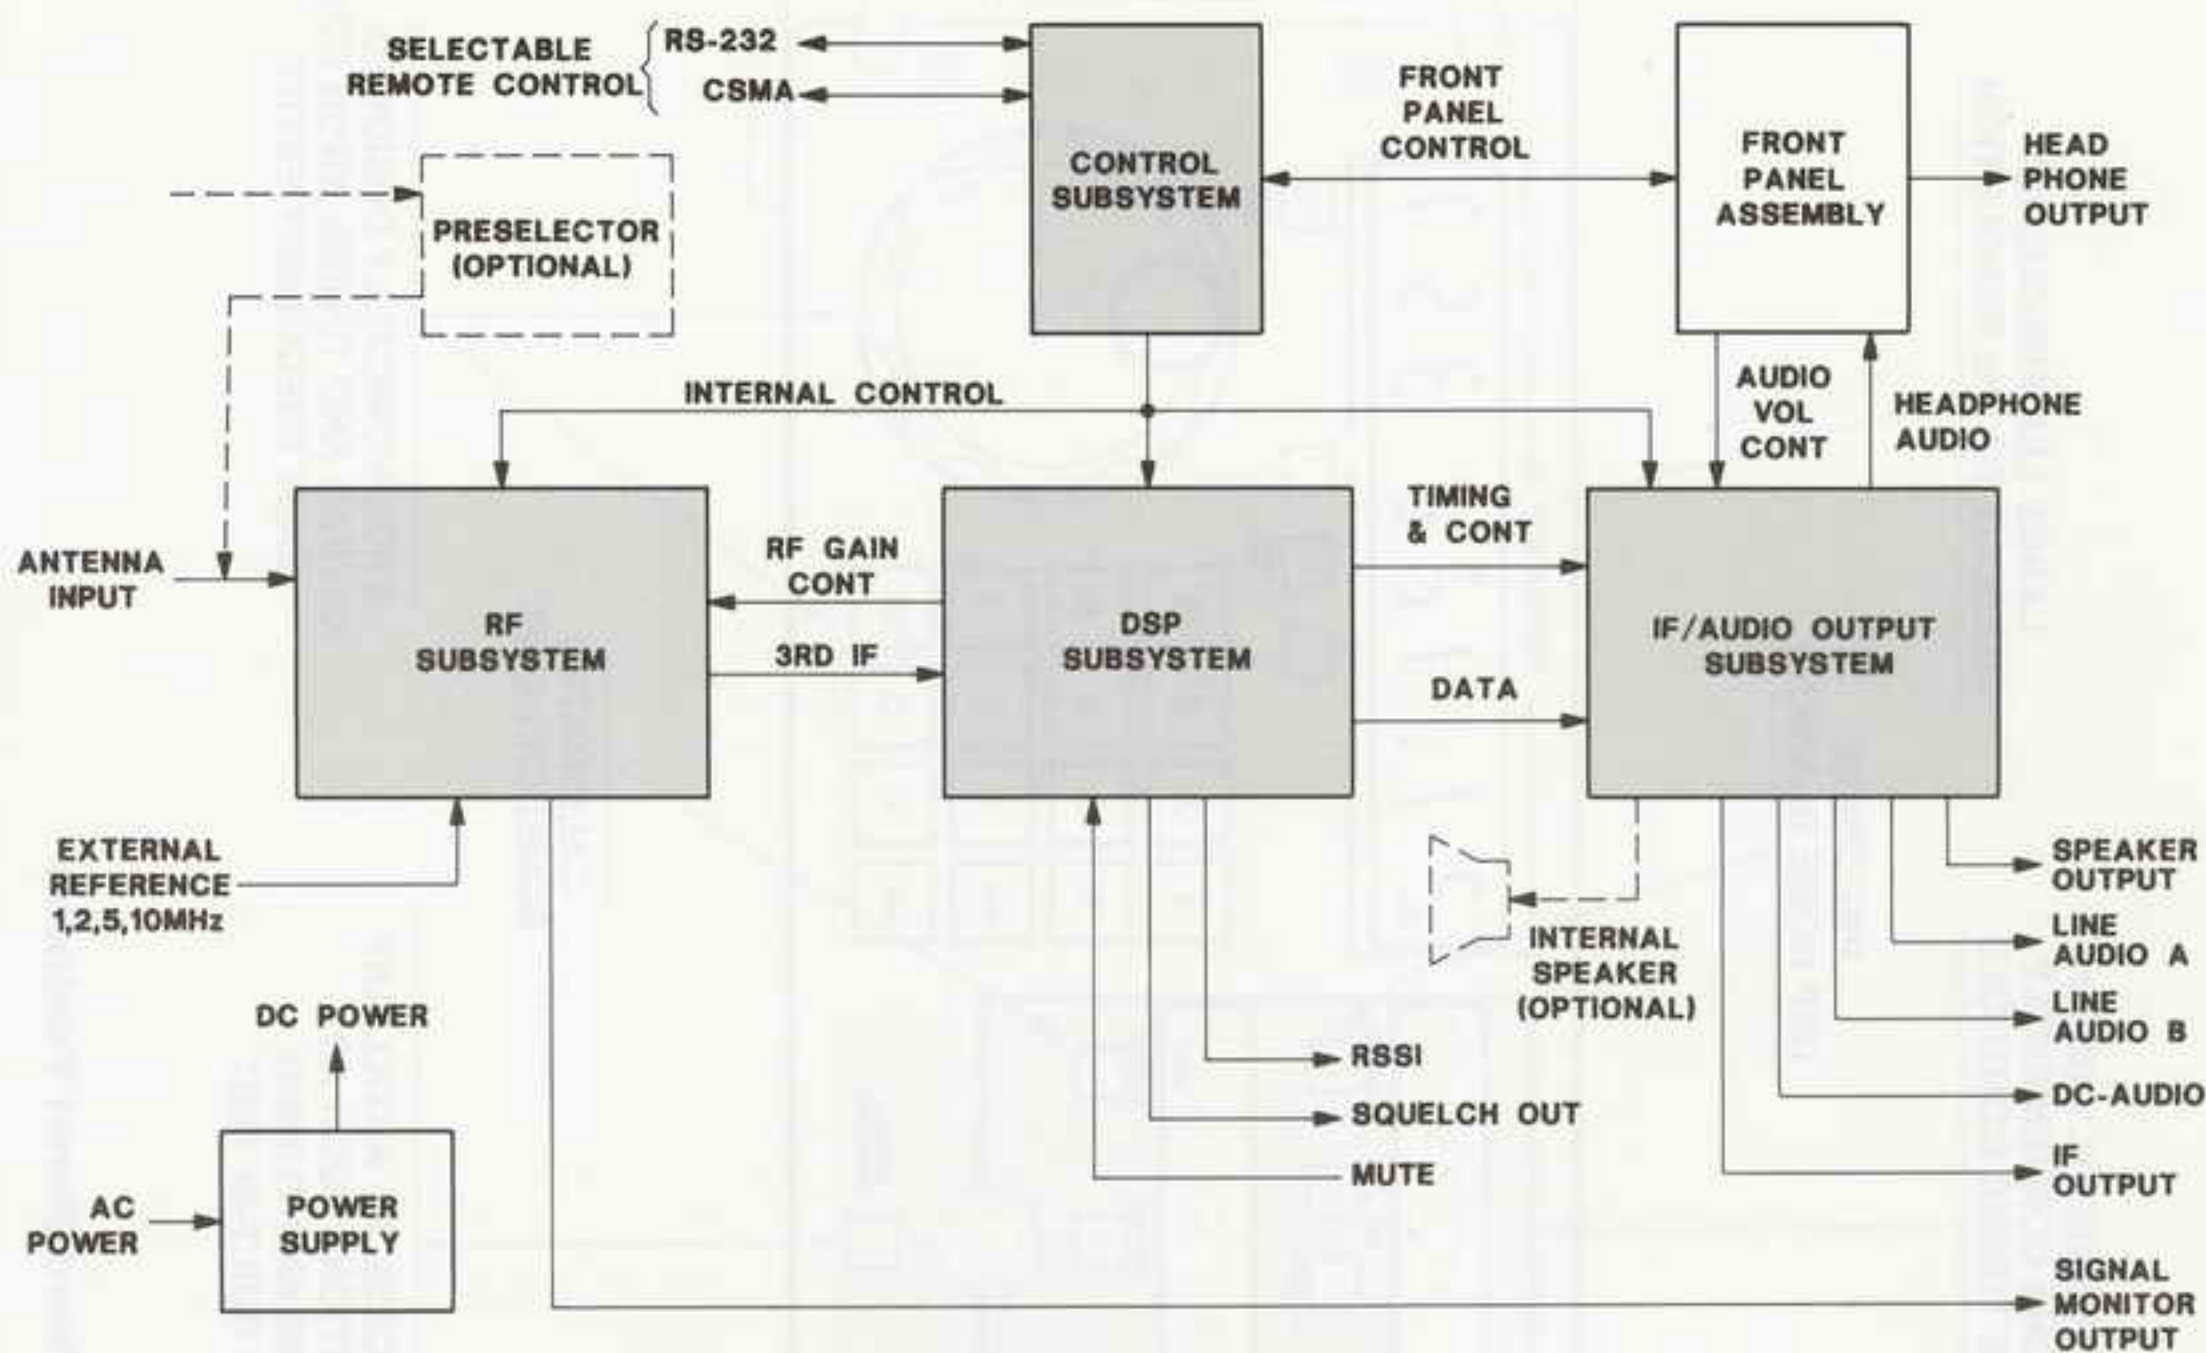
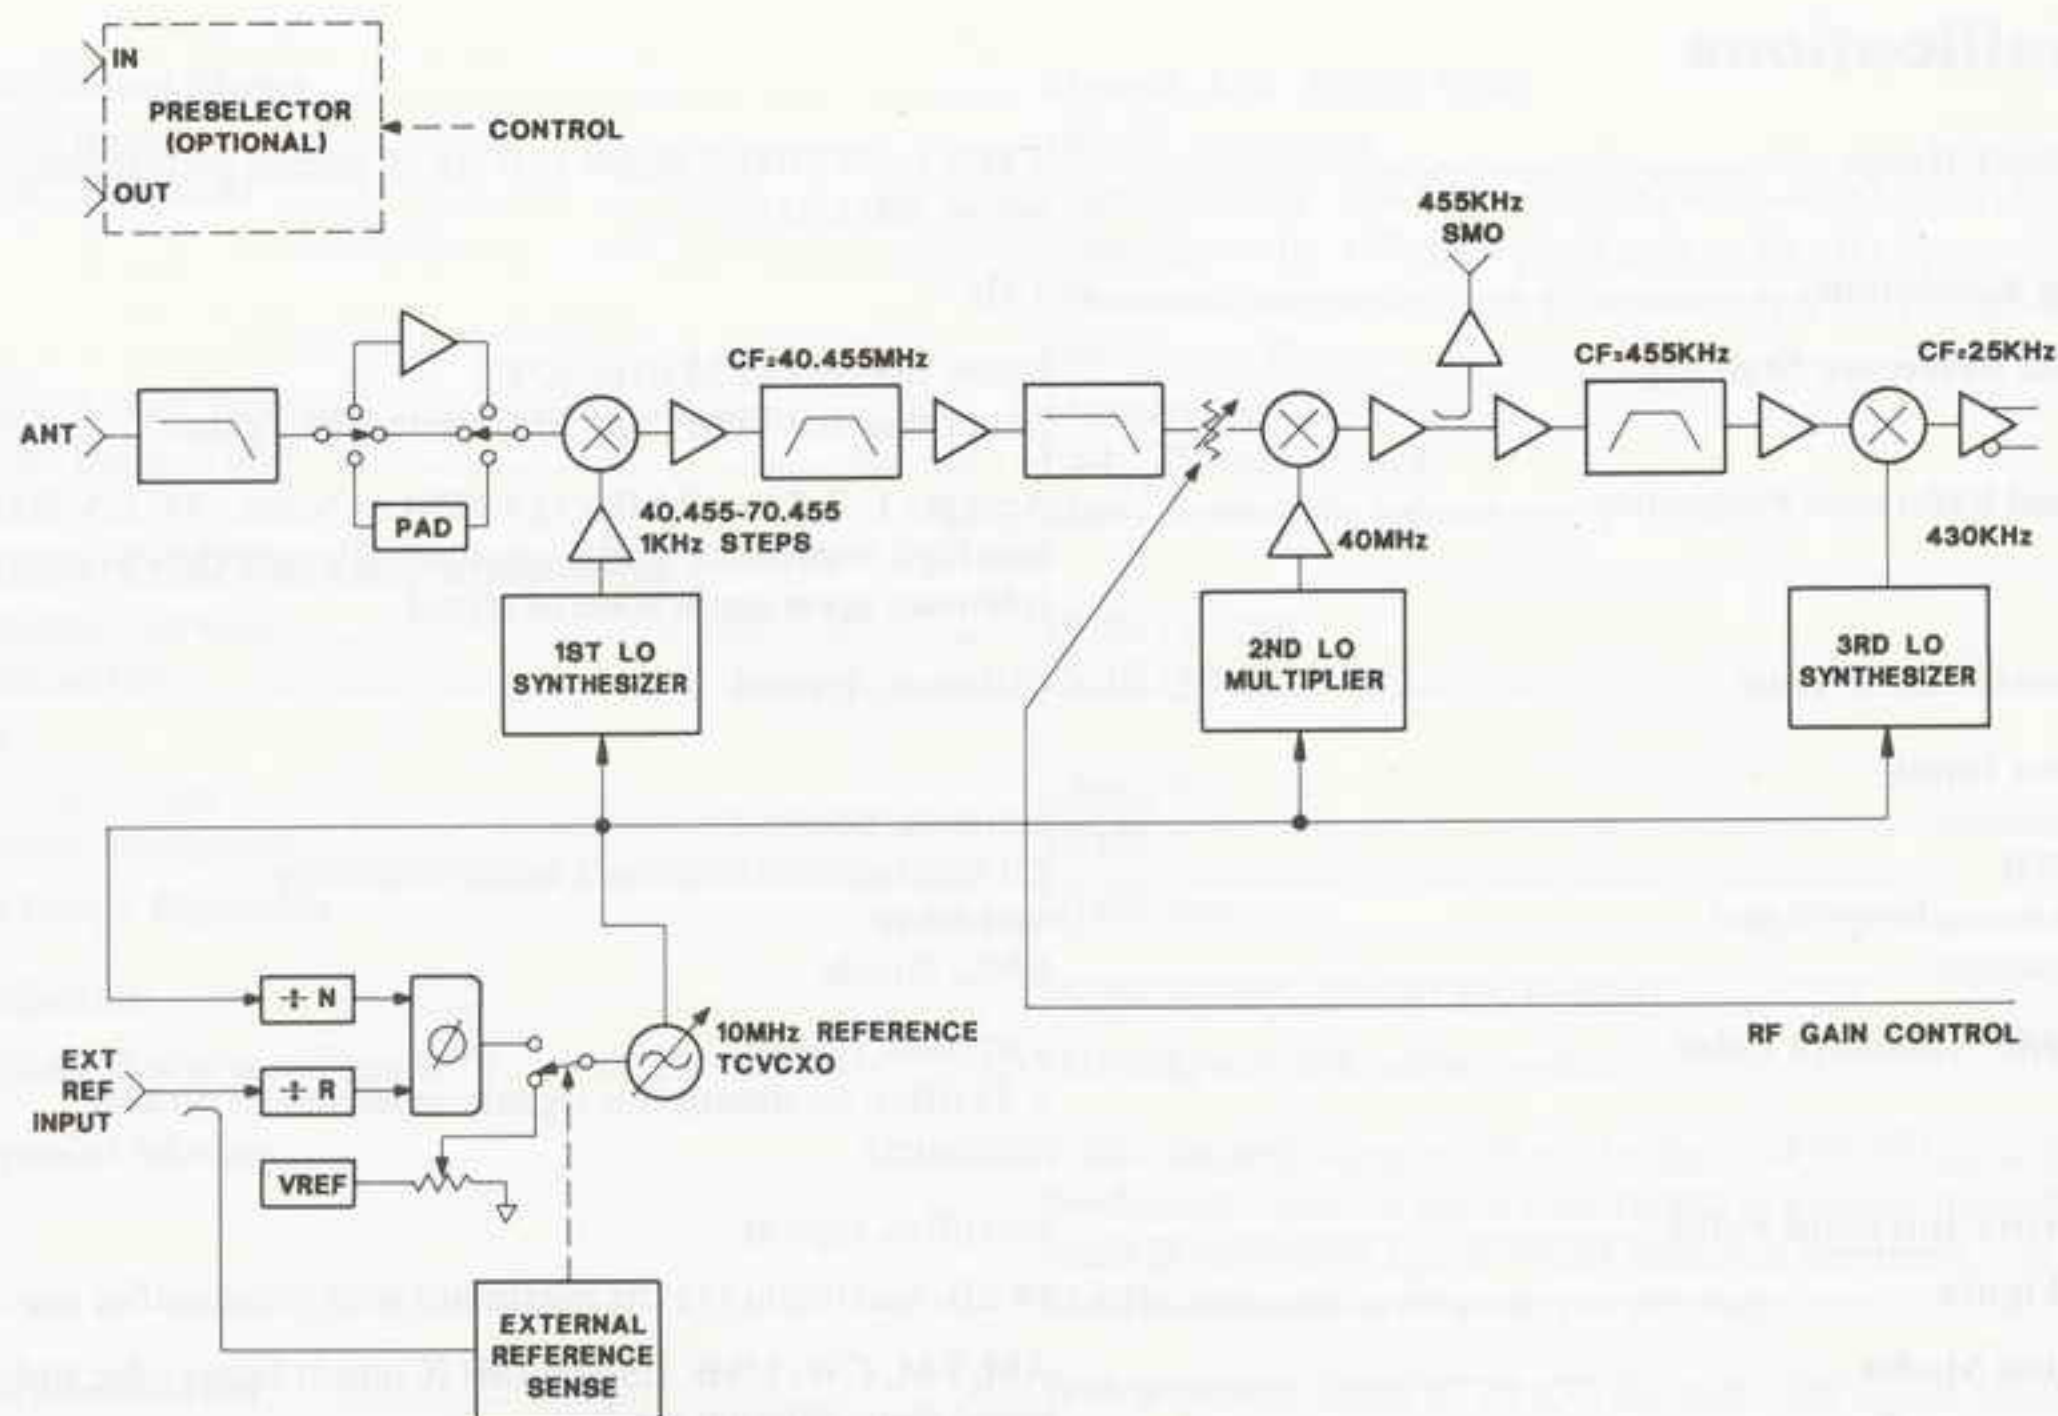

Figure 2. WJ-8711 Functional Block Diagram
Figure 3. WJ-8711 RF Subsystem Functional Block Diagram
As illustrated in Figure 2, the WJ-8711 can be divided into four functional subsystems: RF, DSP, IF/Audio Output and Control. Figure 3 provides a functional block diagram of the RF Subsystem. The 5 kHz to 30 MHz RF signal is applied to the receiver's antenna input, is lowpass filtered, and is then either amplified, attenuated or routed to the normal through-path based on user selection. The signal is then mixed with the first local oscillator (LO), which tunes from 40.455 MHz to 70.455 MHz in 1-kHz steps, to produce a first IF of 40.455 MHz. The first IF filter limits the bandwidths of the signal to approximately 30 kHz before mixing it with the 40-MHz second LO to produce a second IF at 455 kHz. A sample of this second IF is provided on a rear panel for connection